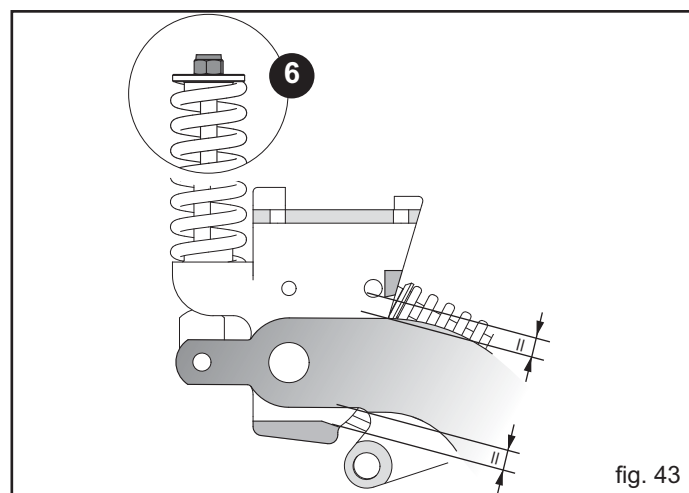

fig. 43
- 3) Check that the element is in an intermediate stroke position (Fig. 43).
- 4) If necessary adjust all the position springs by means of the nut (6, Fig. 43) until you reach the position described at point 3).